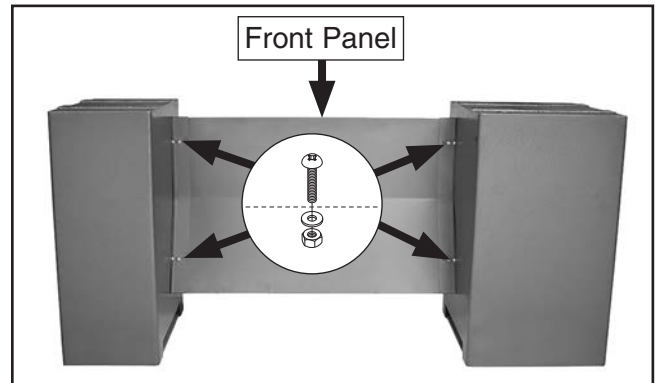

Figure 11. Front panel installed.
3. Install front panel on panel brackets with (4) M6-1 x 10 Phillips head screws, (4) 6mm flat washers, and (4) M6-1 hex nuts (see **Figure 11**).